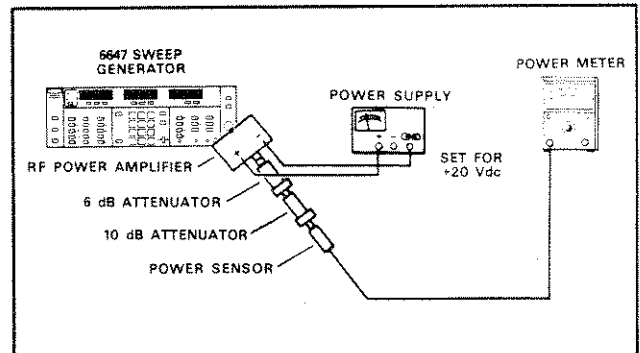

Figure 4-3. Equipment Setup, +16 dBm Verification
3. Connect equipment as shown in Figure 4-3.